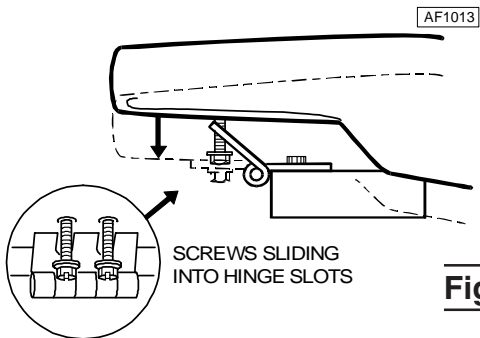

Figure 10
5. Rotate the hinges down toward the hex screws while allowing the screws to slide into the slots in the hinges (See Figure 10). Tighten the screws using a screwdriver or 3/8 inch socket.